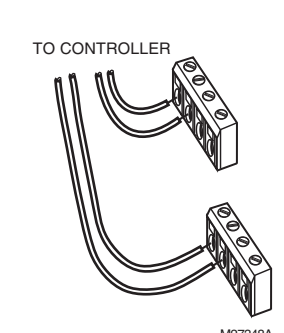

Fig. 5. Options for Wiring Multiple Zios.
1. For single wires, strip 3/16 in. (5 mm); for multiple wires going into one terminal, strip 1/2 in. (13 mm) insulation from the conductor. See Fig. 5 for wiring multiple Zios.